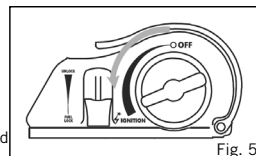

Fig. 5
- Turn the control knob counterclockwise until you hear a click indicating that a spark has been produced. (Fig. 5)